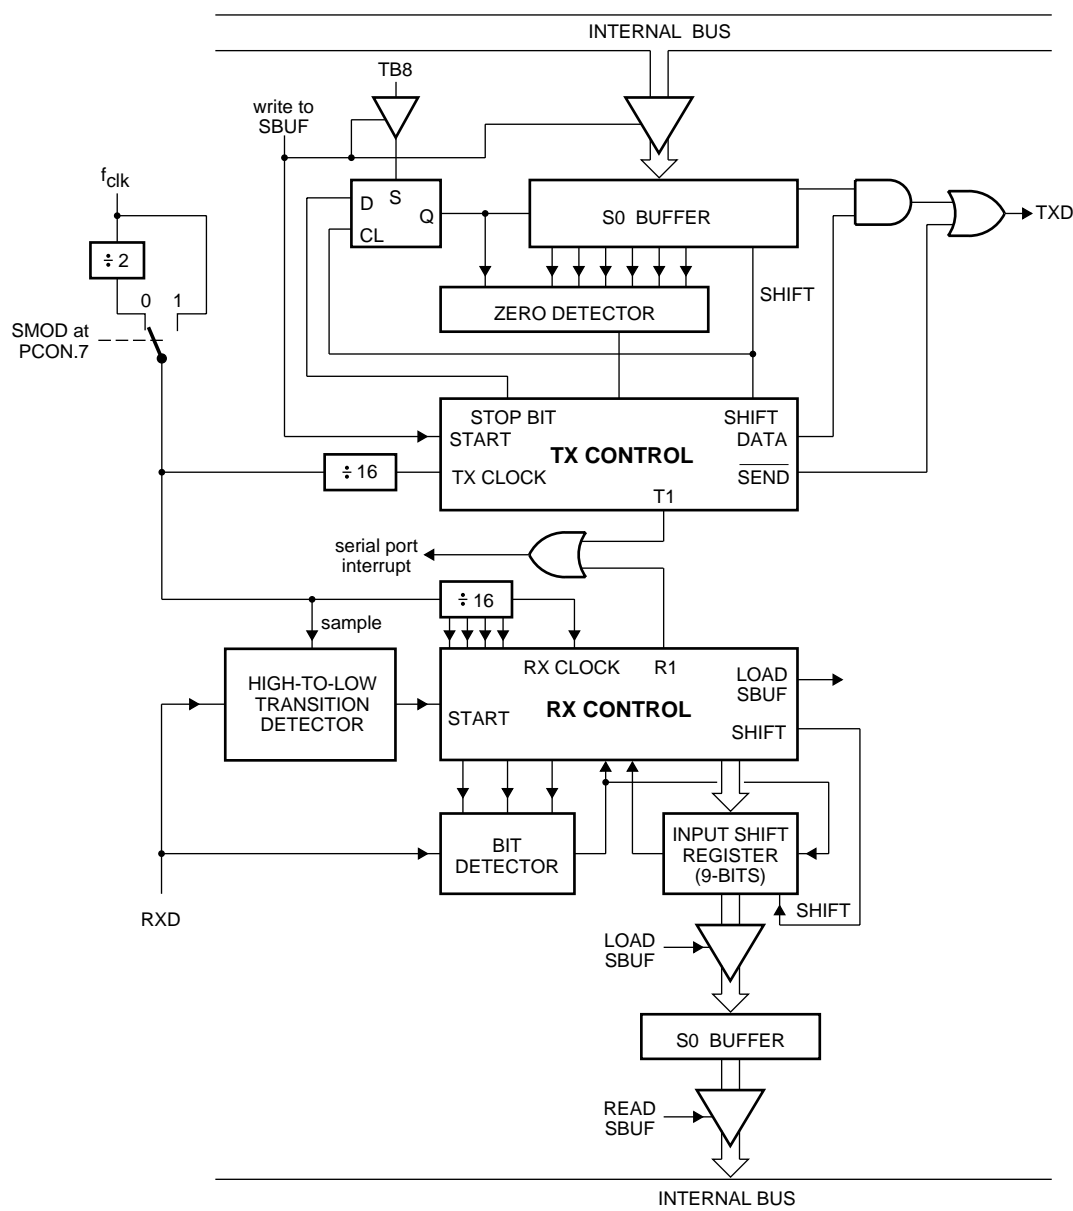

Fig.21 Serial port Mode 2.
- Mode 2 11 bits are transmitted (through TXD) or received (through RXD): start bit (logic 0), 8 data bits (LSB first), a programmable 9th data bit, and a stop bit (logic 1). On transmit, the 9th data bit (TB8 in S0CON) can be assigned the value of a logic 0 or logic 1. Or, for example, the parity bit (P, in the PSW) could be moved into TB8. On receive, the 9th data bit goes into RB8 in S0CON, while the stop bit is ignored. The baud rate is programmable to either $\frac{1}{16}$ or $\frac{1}{32}f_{clk}$. See Figs 21 and 22.